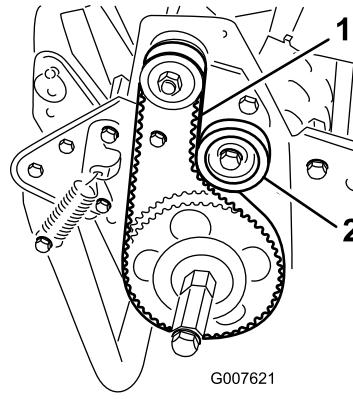

Figure 41
2. Check the tension by pressing the belt at mid span of the pulleys (Figure 41) with 18–22 N (4 to 5 lbs) of force. The belt should deflect 6 mm (1/4 inch).
- A. Loosen the idler pulley mounting nut and pivot the idler pulley clockwise against the backside of the belt until the desired belt tension is attained (Figure 41).